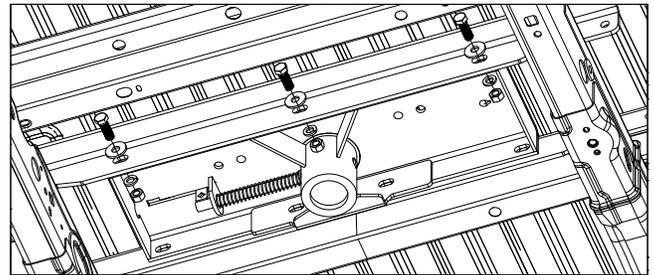
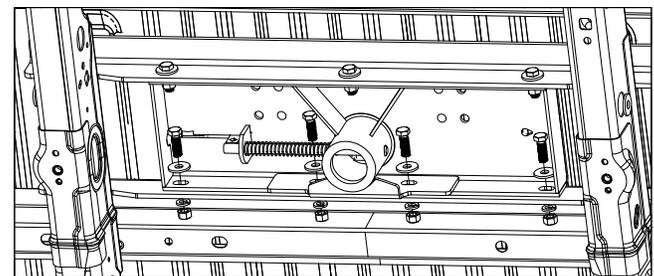

Figure B4: View under bed looking up at center section.
Figure B5: View under bed looking up at center section.
- 4. Attach the cross members to the center.** Locate seven 1/2" X 1 1/2" cap screws, 1/2" flat washers, 1/2" lock washers and 1/2" finish nuts. Slide the rear cross member forward until the flange with the holes is flat against the center section. Align the holes and attach hardware as shown in Figure B4. Slide the front cross member back until the flange with the holes is flat against the center section. Align the holes and attach hardware as shown in Figure B5. Do not tighten hardware at this time.